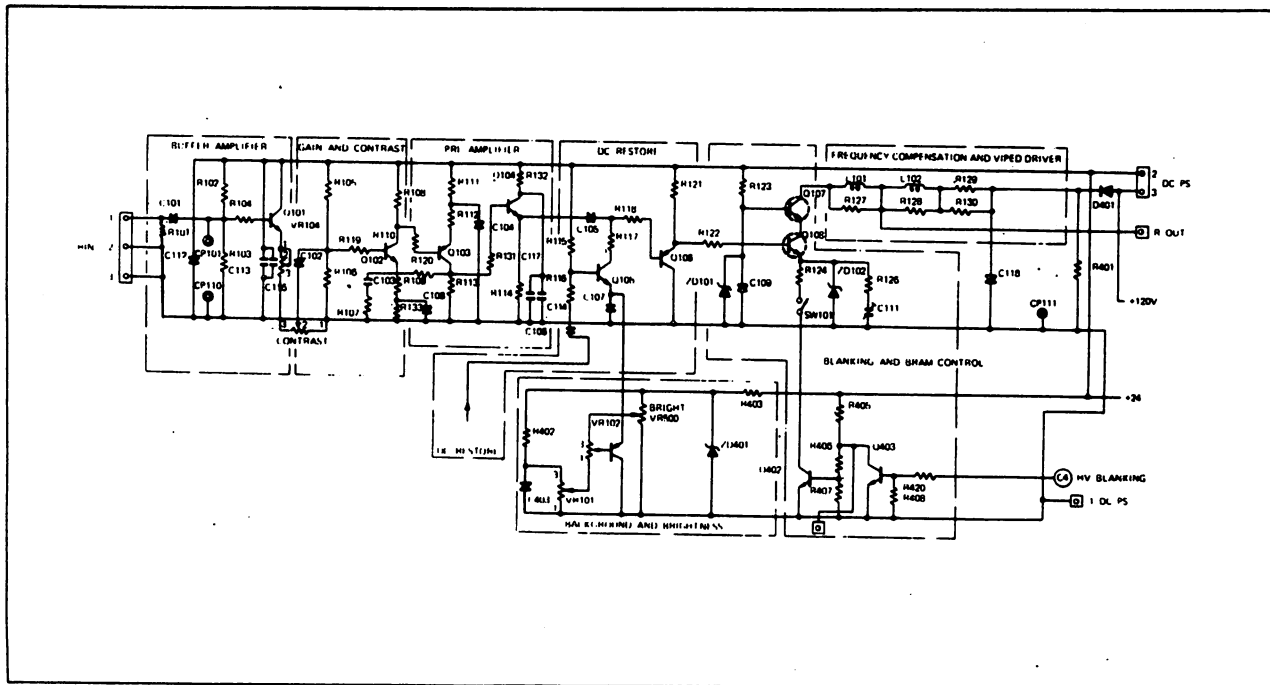

Figure 4-5 Video Amplifiers
4.2.1 Video Amplifier (Figure 4-5)